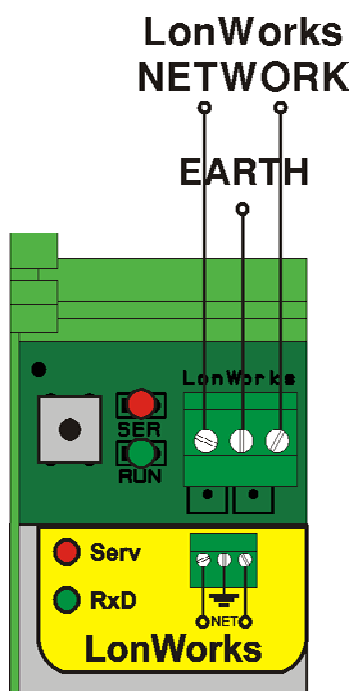

Fig. 2.3
*DP\_LON LINK* is connected to a LonWorks network by means of three-wire line (Fig. 2.3). The two outer terminals are connected to FTT-10 or TPT/XF-1250 LonWorks channel. The mid-terminal must be connected to workshop (facilities) earth.